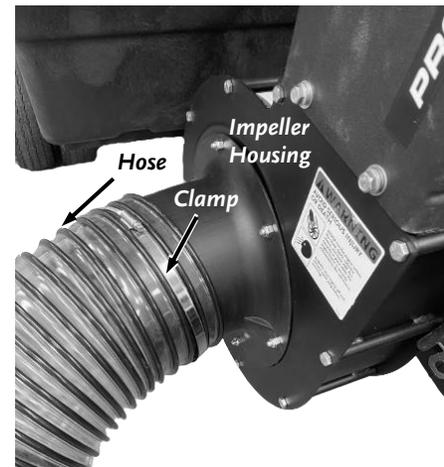

Figure 87
2. Disconnect the Hose from the Impeller Housing using a 5/16" Wrench (**Figure 87**).